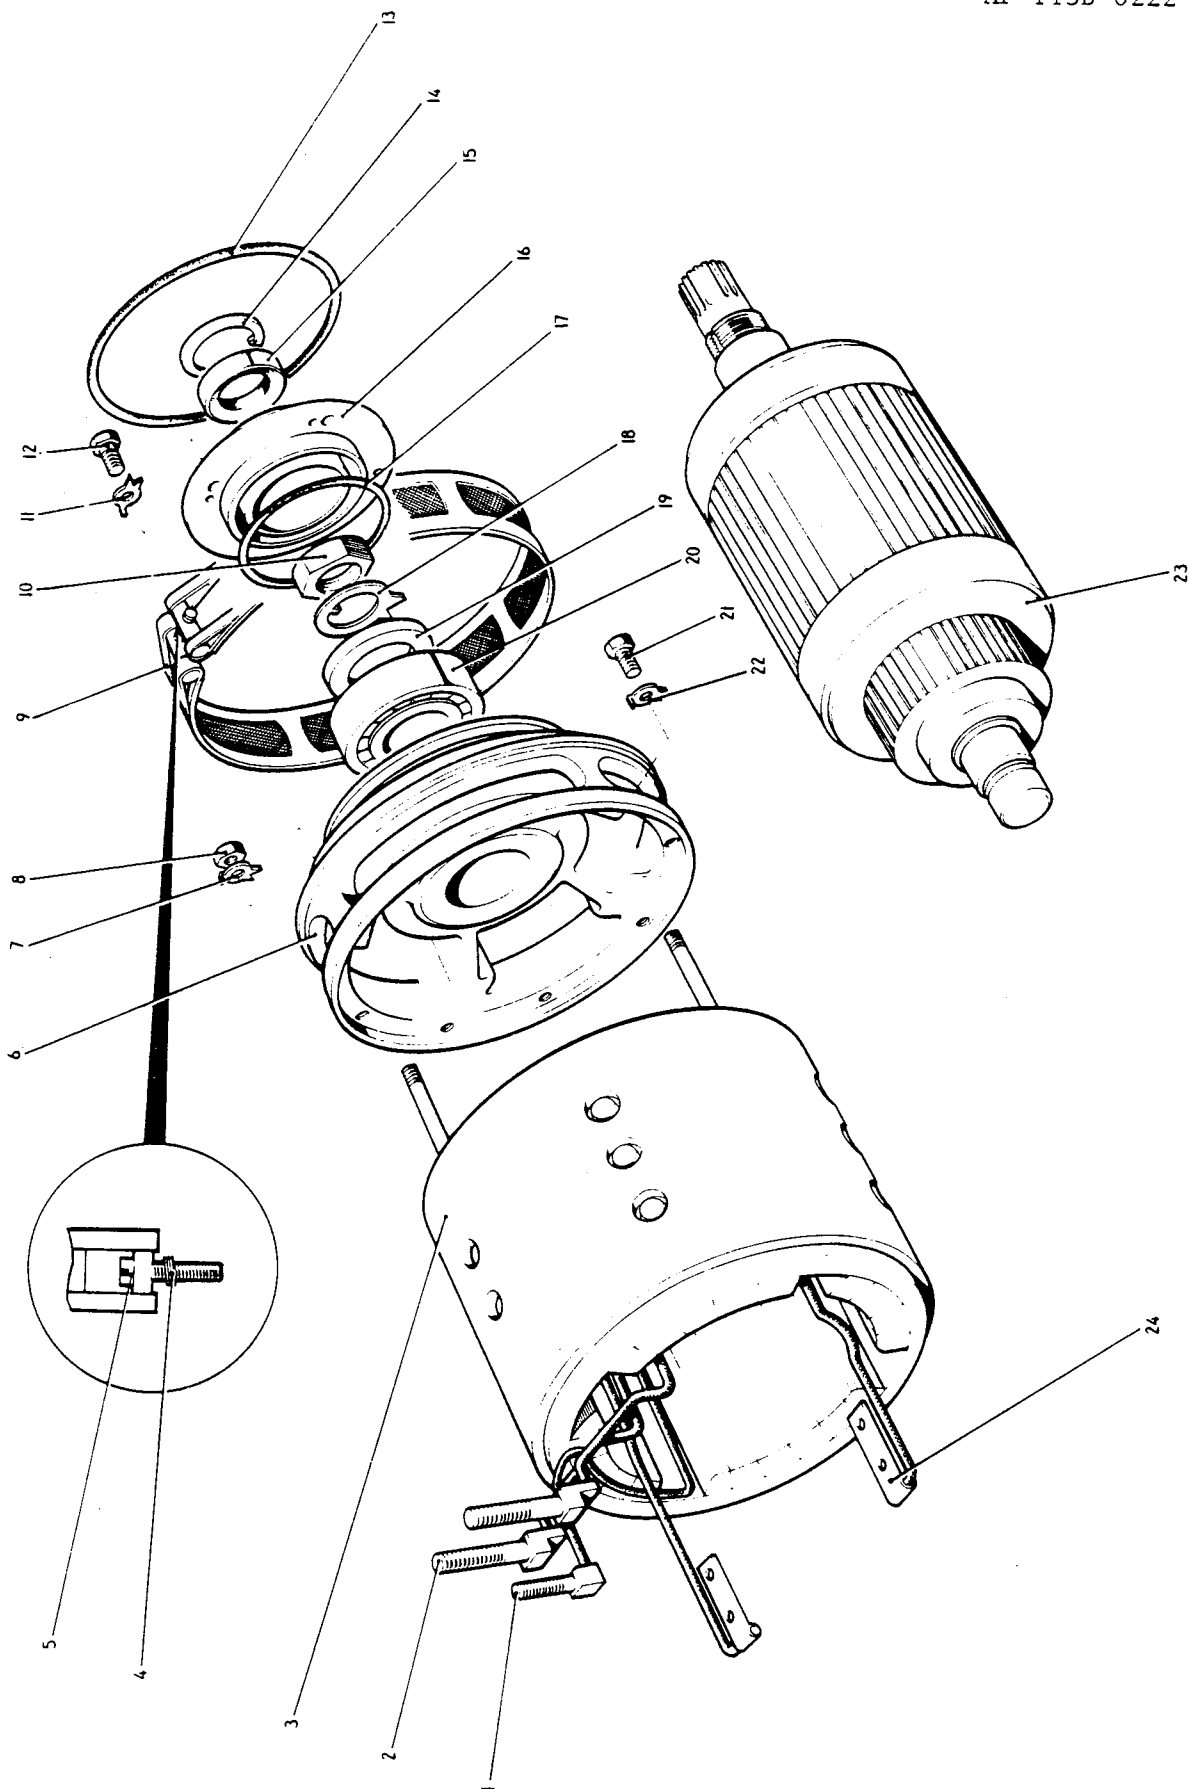

Fig.3 Generator, drive-end and armature - exploded view
## Key to fig.3
5. Refer to fig.3 and proceed as follows:-
- (1) From the armature shaft (fig. 3, item 23) remove the circlip (24) and washer (23).
- (2) Remove the inner race of the bearing (22) from the shaft; collect the spacer (8). Examine the spacer for damage.
- (3) Refit the spacer (8) with the smaller diameter toward the commutator.